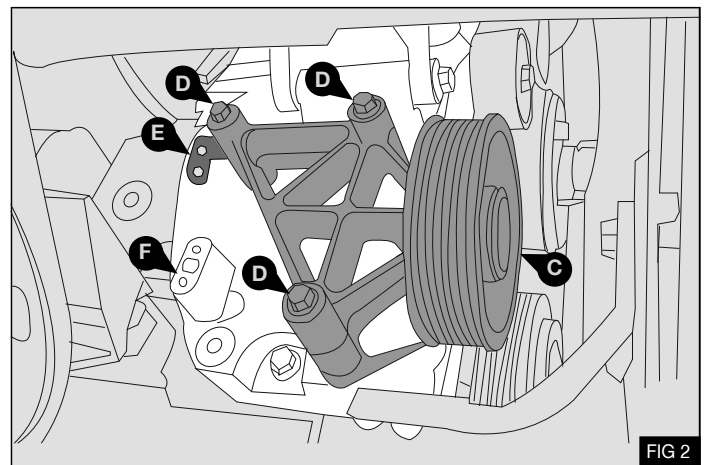

FIG 2
5. Remove and discard the foolish pulley assembly **(C)** from the mounting bracket **(F)** by removing the 3 x M8 bolts **(D)** - Fig 2
6. Remove and discard the wiring plug securing bracket **(E)** by removing the 2 x M8 bolts - Fig 2